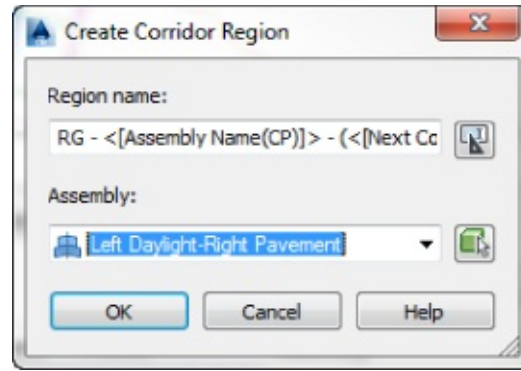

Figure 10.3 Assigning an assembly after inserting a new region
8. In the Create Corridor Region dialog, using the drop-down menu under Assembly, select Left Daylight-Right Pavement, as shown in Figure 10.3.